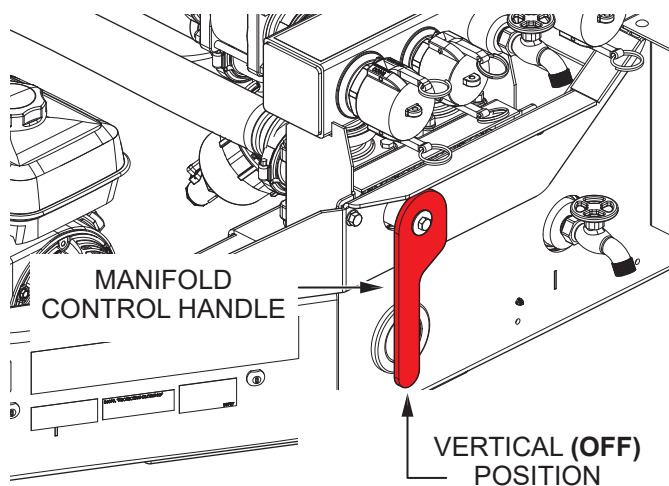

Figure 8. Manifold Control Handle (OFF)
1. Place the **manifold control handle** in the **OFF** (vertical) position. See Figure 8.